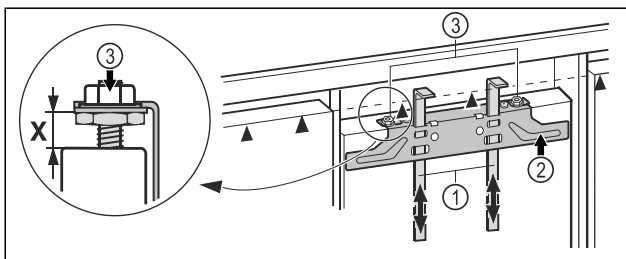

Fig. 18
- Push the assembly aids Fig. 18 (1) up to unit door height. Lower stop edge ▲ of the assembly aid = upper edge of the unit door to be assembled.
- Unscrew the fastening bar Fig. 18 (2) using the lock nuts Fig. 18 (3).